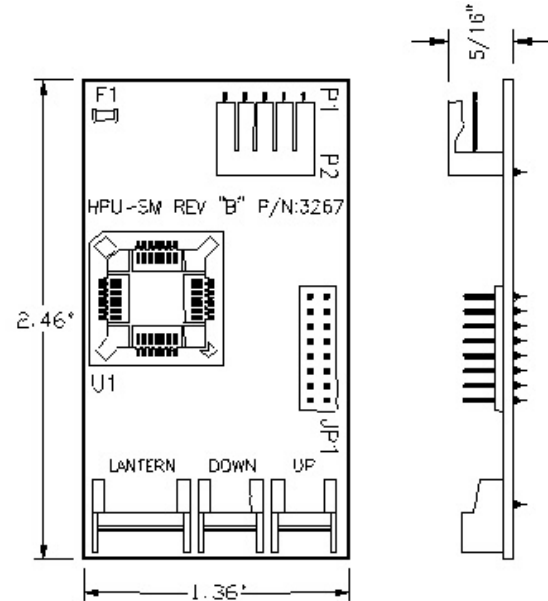

Figure 1-32
- Verify the HPU address jumpers are correct for that floor. [See Figure 1-32 and HPU Address Jumper Configuration Charts.]
- Connect the other end of the cable to the Hall Push Button HPU board P1 (5 pin) connector (HPU is to remain in the Hall Call Box). Verify that the connections correspond to their appropriate connections in the hoistway. [See Figure 1-32.]
- Verify the HPU address jumpers are correct for that floor (each board has floor designation on back). [See Figure 1-32.]